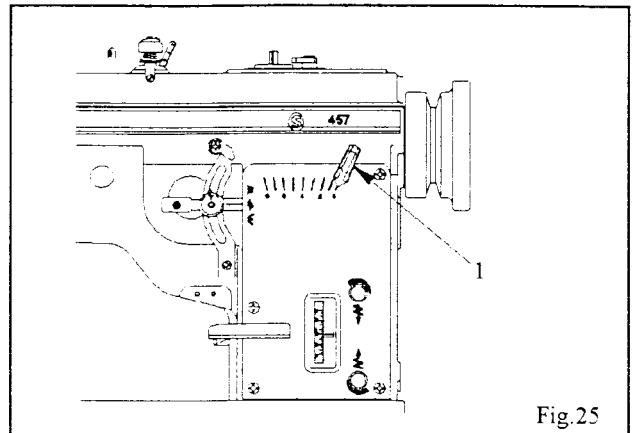

Fig. 25
The width of zigzag stitch is regulated with lever (1), Fig. 25.